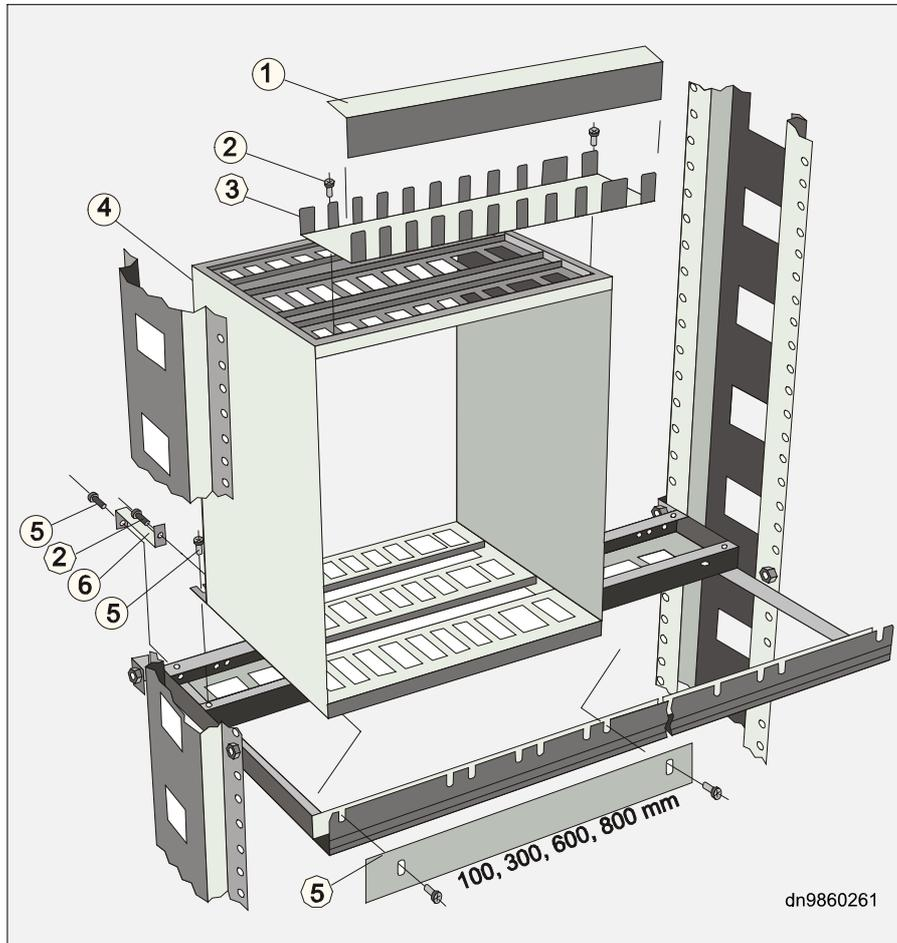

Figure 8. Removing and reinstalling the cartridge, example.
Install the fastening rails to the cartridges listed below as described in the installation procedure below and shown in Figure 8 above.
1. Remove the screws at the lower front rail of the cartridge(s) on the shelf concerned, as shown in Figure 8.